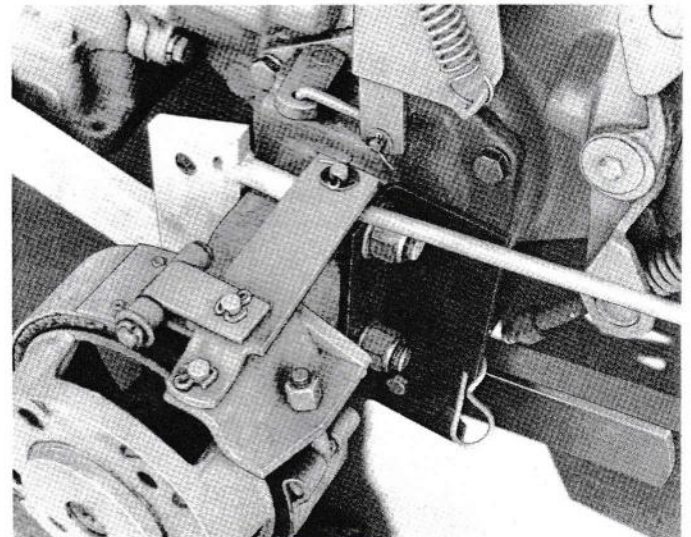

FIGURE 24
1. Assemble the Frame Assembly Axle Connector and the two Axle Tiestraps with four Bolts, Nuts, and Lockwashers to the Rear Axle Housings. The bar of the Frame Assembly Axle Connector goes in front and below the Axle Housings. This Connector does not have to be removed from the Tractor once it is assembled. The Frame Assembly Axle Connector can also be mounted using the 14712E1 Rear Hitch. (See Figure 24).